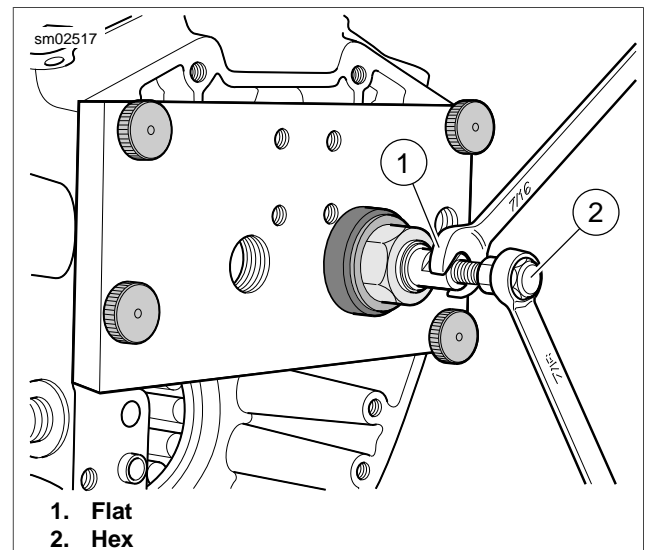

Figure 3-120. Expanding Collet by Turning Hex Clockwise
10. See Figure 3-120. Using a 7/16 in. open end wrench, hold flat on collet to prevent rotation. Using a second 7/16 in. open end wrench, expand collet by turning hex at end of shaft in a clockwise direction. Expandable end of collet makes contact with needle bearing ID.